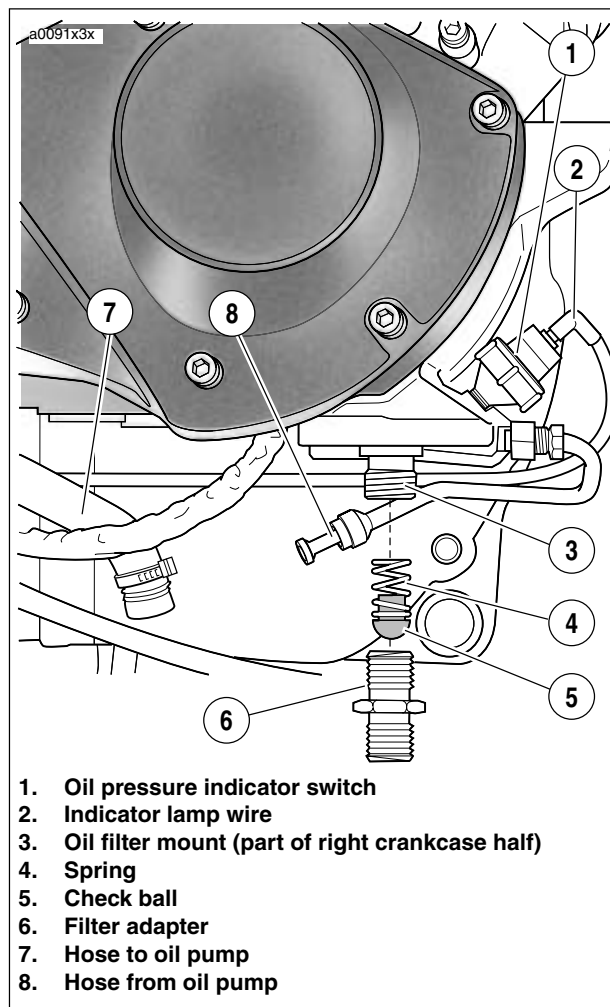

Figure 3-99. Oil Filter Mount Assembly
See Figure 3-99. Oil is pressure-fed from the oil pump to the filter mount via rigid external steel line. Oil travels through the filter mount into the filter through the outer filter holes.
2. See Figure 3-99. Remove filter adapter (6) from filter mount (3). Remove check ball (5) and spring (4).
3. Detach indicator lamp wire (2) from oil pressure indicator switch (1). Remove switch using OIL PRESSURE SENDING UNIT WRENCH (Part No. HD-41675).
1. See Figure 3-99. Install oil pressure indicator switch using (1) OIL PRESSURE SENDING UNIT WRENCH (Part No. HD-41675). Tighten to 50-70 **in-lbs** (6-8 Nm).
2. Attach indicator lamp wire (2) to oil pressure indicator switch (1).